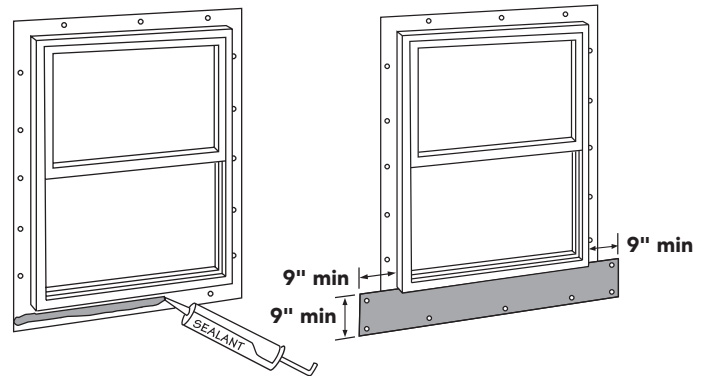

Figure 28
- Apply a continuous bead of sealant to the nailing flange of the sill in a manner that covers the nails and nail slots. Apply a minimum of 9" (229mm) wide horizontal sill flashing level with the bottom edge of the existing window by pressing the flashing into the sealant bead at its top edge. Cut the sill flashing long enough to extend a minimum of 9" (229mm) beyond each jamb. Fasten the sill flashing at the bottom and side edges (Figure 28).